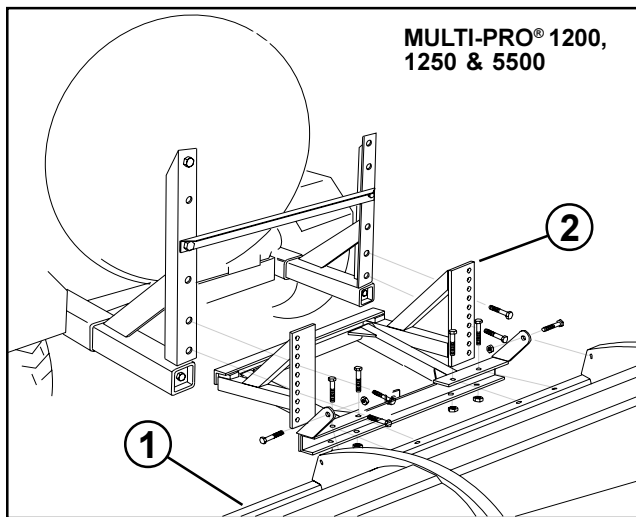

FIG. 4a
1. Assemble Boom Mount onto the Center Boom as per FIG. 4 using the (6) 1/2" x 3" hex hd. cap screws and lock nuts. FIG. 4a.
MULTI-PRO® 1200/1250 - Align the inner holes of the Boom Mount with the matching holes on the Boom Mount Assemblies. Secure with (4) 1/2" x 1-1/4" hex hd. cap screws and lock nuts. (FIG. 4a)
MULTI-PRO® 5500 - Align the bottom holes in Boom Mount Assemblies with the fourth and seventh holes from the bottom on the Boom Mount. Secure with (4) 1/2" x 1-1/4" hex hd. cap screws and lock nuts. (FIG. 4a)